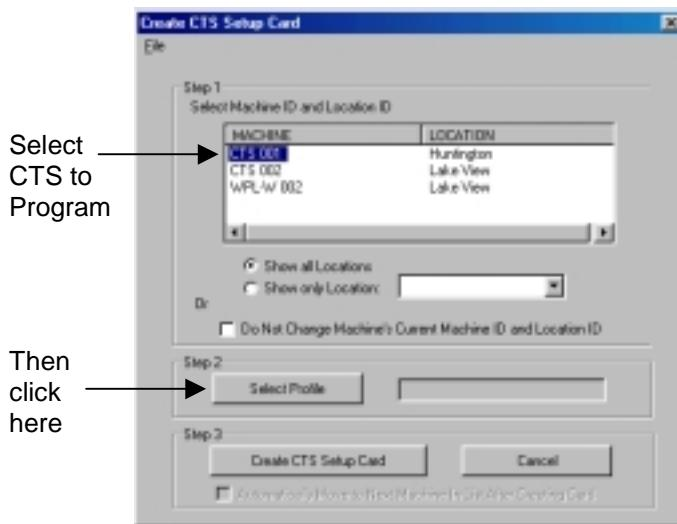
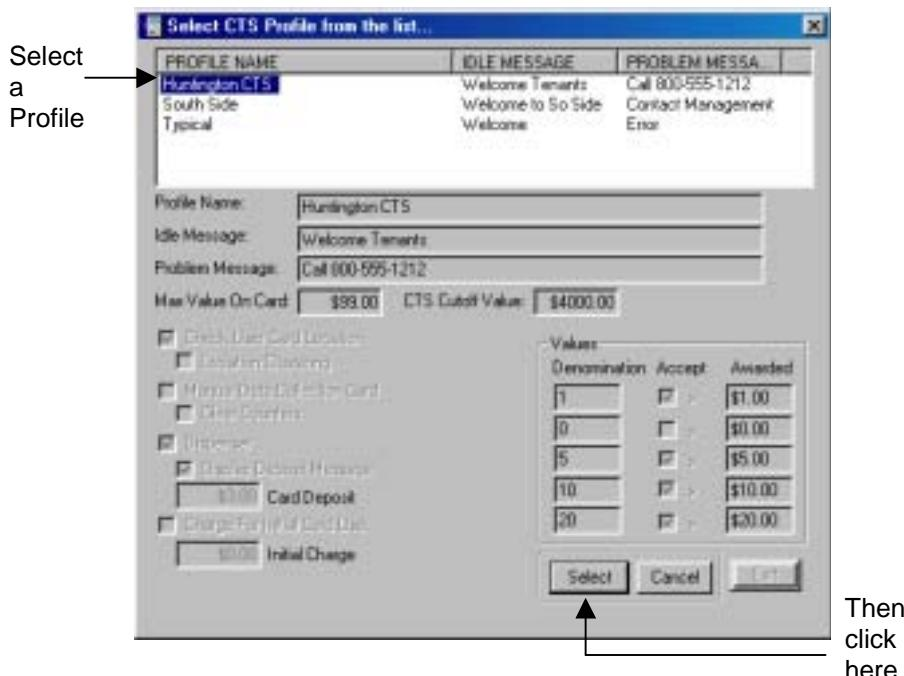

Figure 3.17 Select CTS to Program
Figure 3.18 Select Profile
3. In the Create CTS Setup Card window click on machine to setup (Figure 3.17).
4. Click the **Select Profile** button (Figure 3.17). Select the profile for the CTS that is being programmed, and click the **Select** button (Figure 3.18).